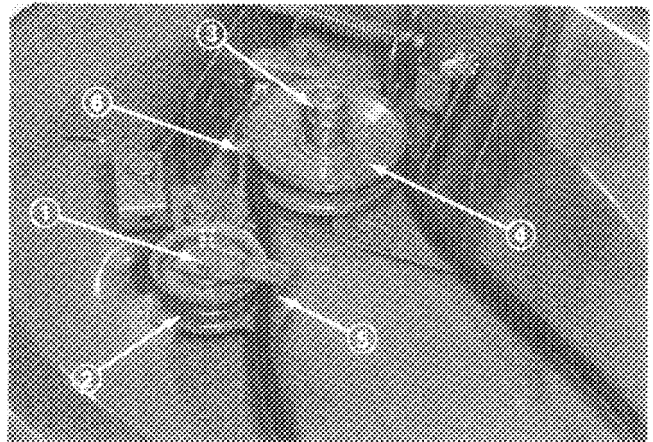

Figure 35
7. Remove lock nut from cap screw that holds retainer and idler pulley to idler arm. Lift up the pulley and retainer so belt can be removed (Fig. 35).
8. Remove lock nut holding blade pulley on spindle shaft (Fig. 35). Slide pulley up and remove belt.
9. To install blade drive belt, loop belt around blade drive pulley and to the inside of the belt guide (Fig. 35). Install pulley on spindle shaft with lock nut (Fig. 35), and tighten nut to 50-60 ft-lb. Install belt between idler pulley and belt retainer/guide, and secure idler assembly to idler bracket with cap screw and lock nut (Fig. 35).